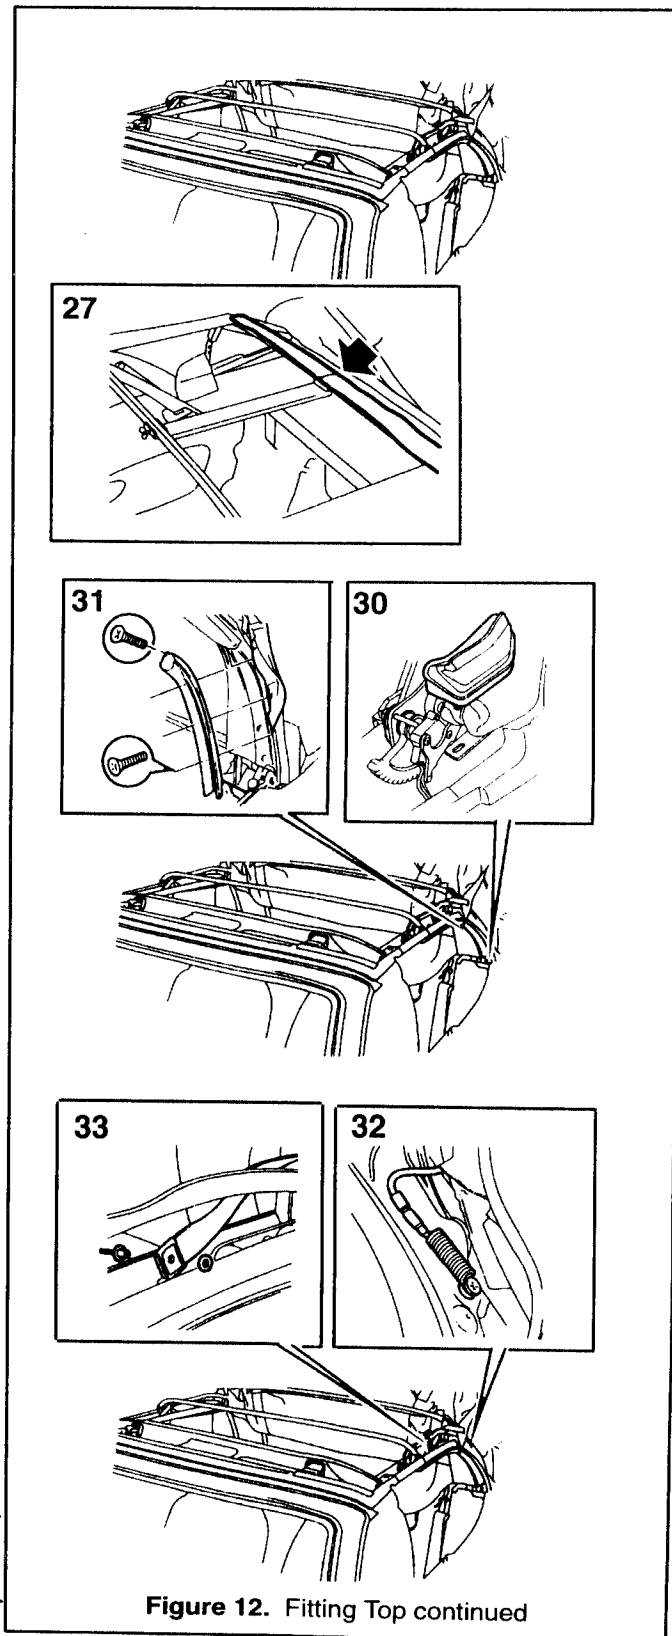

Figure 12. Fitting Top continued
- 27. Pull the top cover's fabric lip over the fourth bow and center it according to the marking. On new top covers the center is marked by a notch cut into the fabric. Tighten the fabric lip firmly and staple it in place. See Figure 12. Remove tool, P/N 82 93 045.
- 30. Fit the covers under the rear rail in place and tighten the nuts. See Figure 12.
- 31. Refit the rear rail seals. Cut away surplus fabric. See Figure 12.
- 32. Pull the wires out through the sides of the top fabric. See Figure 12.